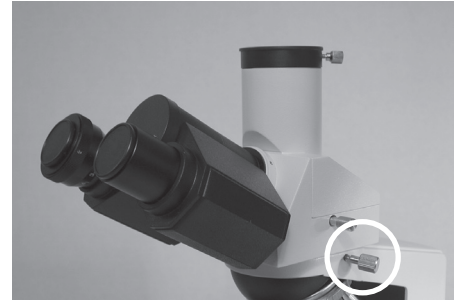

Figure 1
- 3 Loosen the head set screw (circled in figure 1) and rotate the head 180° so the eyepieces face forward.